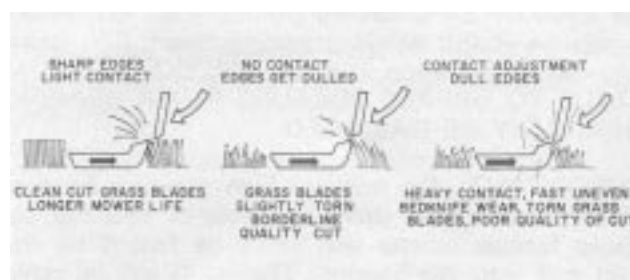

Figure 9
1. **Bedknife/Reel Contact** (Fig. 9) – There must be light contact between bedknife and reel to keep cutting edges sharp and to produce an excellent quality of cut. By contrast, mowers operated with– out light contact allow abrasive materials and grass to pass between the bedknife and reel. This eroding action rounds off the bedknife and reel cutting edges, which results in a poor quality of cut. If cutting edges become round, bedknife and reel must be lapped. Excessive rounding off of cutting edges may require that bedknife and reel be ground and lapped. Never compensate for round cutting edges by tightening bedknife adjusting knob until there is heavy contact because the bedknife and reel will wear unevenly and cause “rifling”.